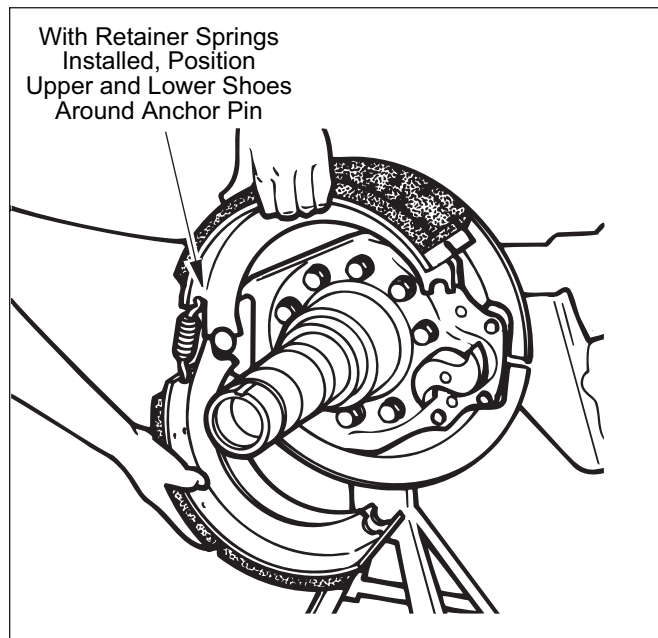

Figure 62. Upper and Lower Shoe Positioning
4. Position upper and lower shoes around anchor pin. Refer to Figure 62.